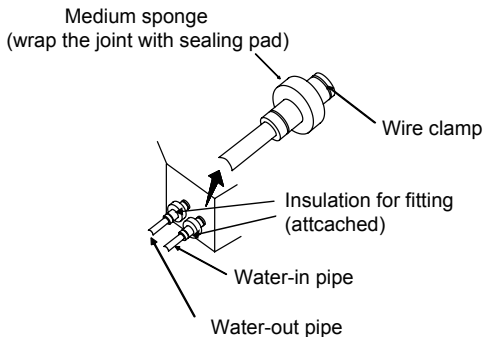

Fig.15
- (1) The pipe of water-in/out is pipe thread G3/4". The surface of thread should be enlaced by the two or three trap (as Fig.15~16).
- (2) After the water-in/out pipe and water-out pipe is connected tightly, start the water pump, and ther, check its airproof performance.
- (3) Insulate it as shown in the figur below.